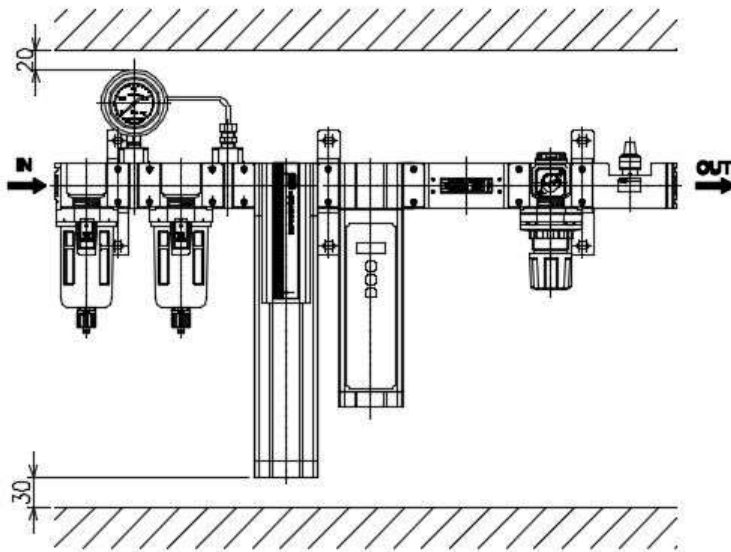

Fig.4
- 4) Allow a minimum of 20 mm above the top and 30 mm below the unit for maintenance purpose. (Refer to Fig.4)
- 5) In case of the option E of NSU-3S,3L series, piping of exhaust air should use the hose or piping material of I.D. 8 mm or more, and give length as less than 3 m. (Refer to Fig.4)